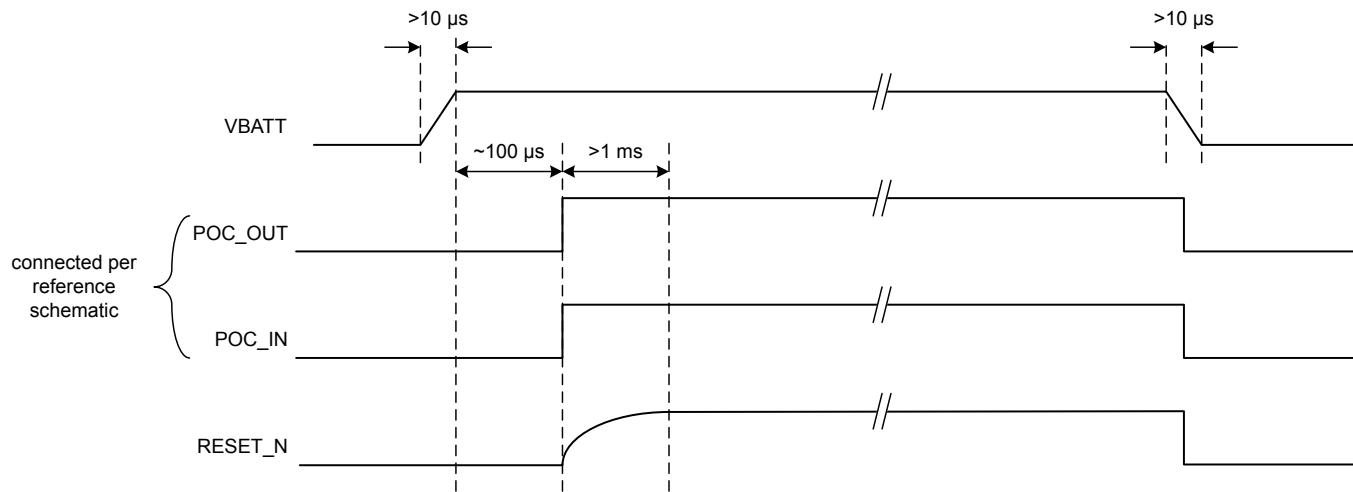

Figure 7.1. Power Up Sequence
- RESET_N: RESET_N is an open-drain signal which will be pulled low during a chip reset. It is released after POC_IN is high. RESET_N should be connected to an RC circuit to fulfill the timing requirements shown in Figure 7.1 Power Up Sequence on page 96.
Figure 7.1 Power Up Sequence on page 96 shows the signal timing when POC_OUT, POC_IN, and RESET_N are connected per the recommended schematic. The POC_IN-to-RESET_N delay will occur when POC_IN transitions from low to high. VBATT in the figure refers to the connection of UULP_VBATT_1 and UULP_VBATT_2 (connected together in the schematic).